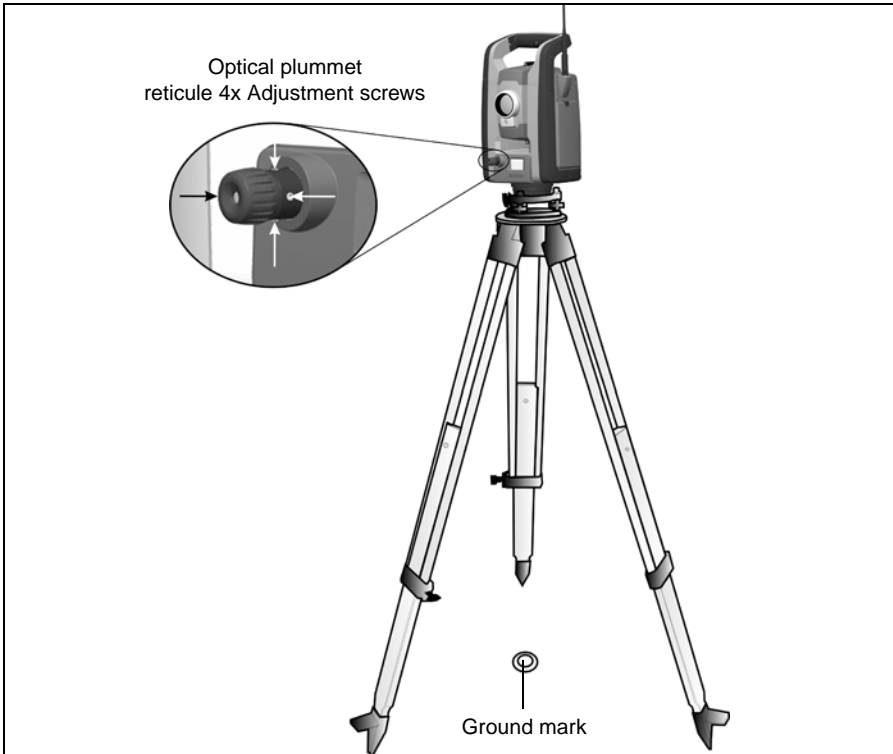

Figure 4.34 Optical plummet adjustment
1. Set up the instrument and level it over a ground mark so that the tripod height is 1.5 m (± 0.1 m) (4.920 ft. (± 0.328 ft.)). Figure 4.34